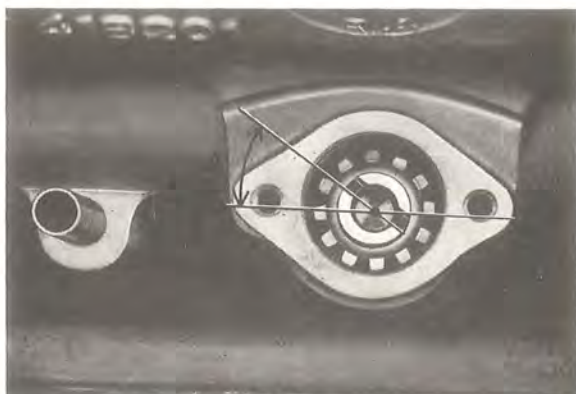

Fig. 2-46. Distributor drive position
When No. 1 cylinder is at top dead centre, fit the oil pump drive and distributor. The small part at the groove is turned obliquely upwards-backwards and the groove set at an angle of 35° to the longitudinal axis of the engine, see Fig. 2-46 (A). Make sure that the shaft goes down into its groove in the pump shaft.